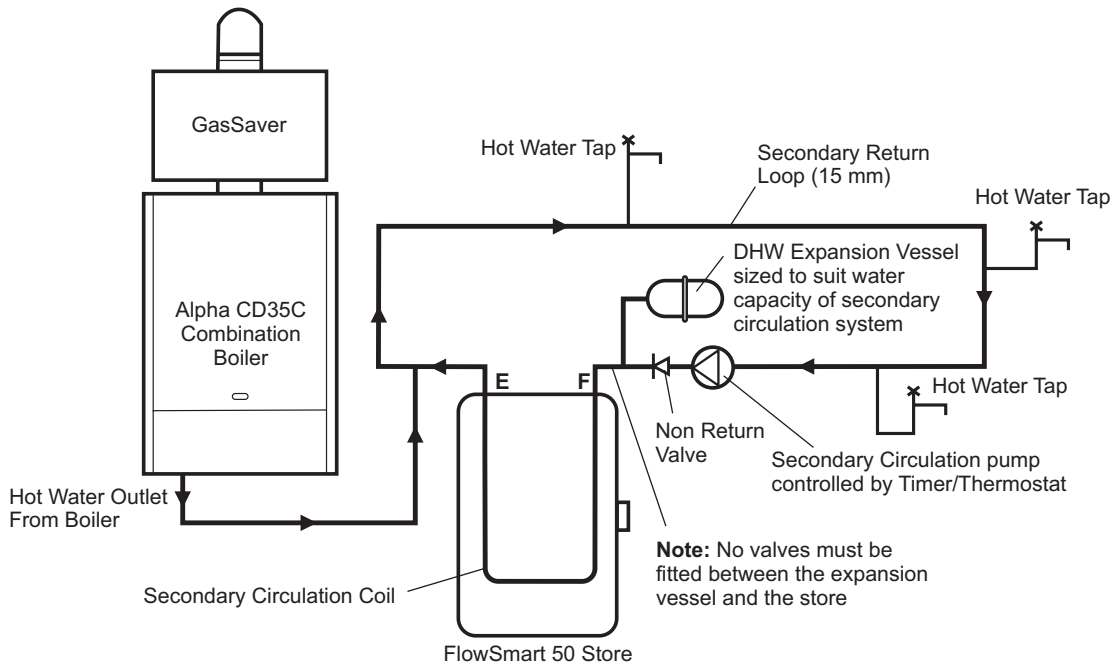

Fig. 6
3.7 ALPHA FLOWSMART 50 - SECONDARY CIRCULATION - See Fig. 6
Note: 50 L only - If a DHW secondary circulation circuit is used, the connections with the white collar (E and F) must be connected to the circuit. Refer to Section 3.7 and Fig. 6.